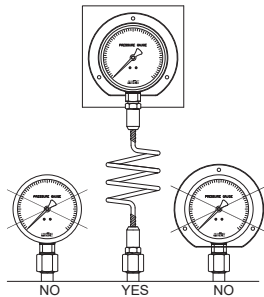

Figure 8
- 1) It is required to find out follwings before using the gauge. (Figure 8)